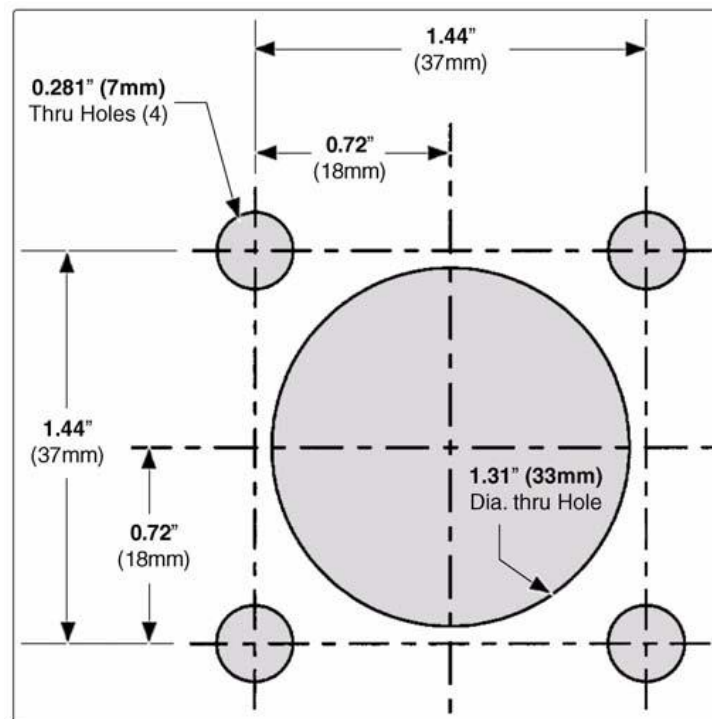

Figure 41: Top Mount Sensor Dimensions
Flange cut-out dimensions are shown in Figure 41: **Top Mount Sensor Dimensions**. The flange gasket can also be used as a template to mark hole location.
1. Layout and drill holes in the top of the foam tank (see Figure 41: **Top Mount Sensor Dimensions**).